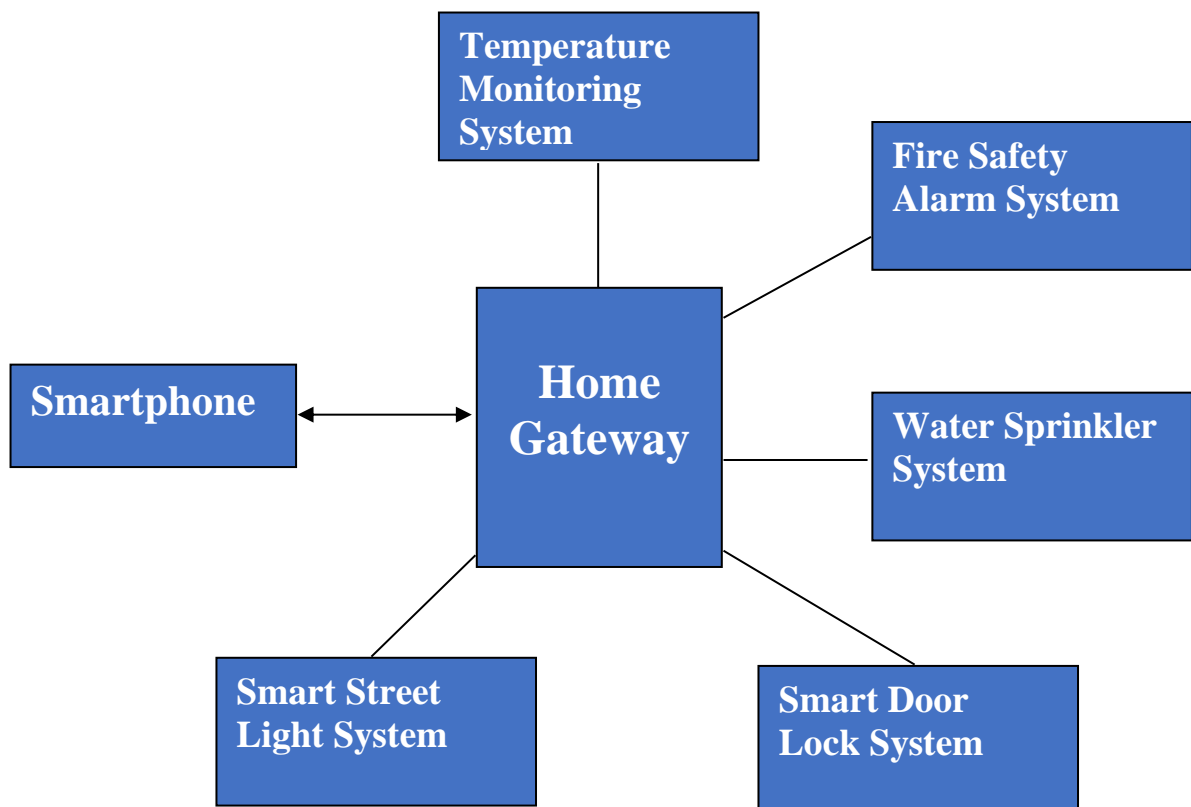

Fig 1: Block Diagram of system
**Fig1** shows the block diagram of Smart greenhouse based on IoT in Cisco packet tracer. The block diagram contains temperature monitoring system, fire detection system, smart lighting system, moisture monitoring system, smart door system. All the devices are connected using the internet. A smart phone is used to monitor the devices in the greenhouse. Wireless devices are used to implement the designed system.